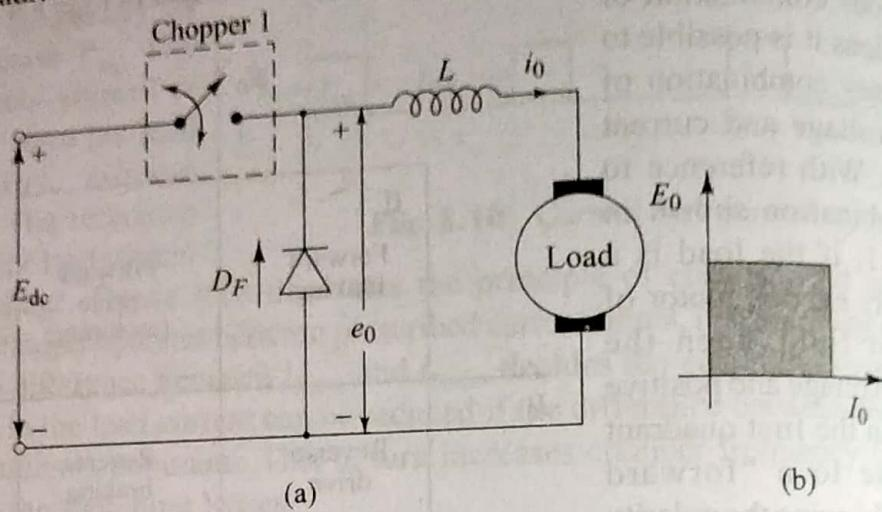
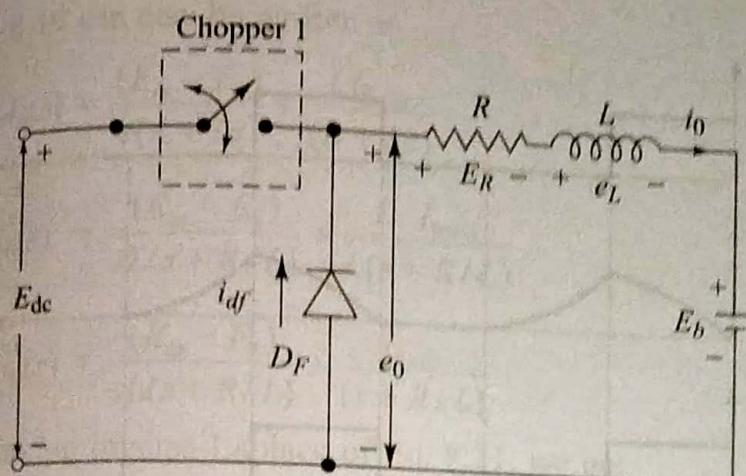

Fig. 8.12 Type A chopper circuit and $E_0 - I_0$ characteristic
Fig. 8.13 First quadrant chopper with $R - L$ load
Figure 8.12 illustrates the basic power circuit of first quadrant chopper. The term 'first quadrant' signifies that circuit parameters E_0 and I_0 occur only in the first quadrant of $E_0 - I_0$ diagram.
Commutating circuitry is not shown in Fig. 8.12 for simplicity. When the chopper CH_1 is ON, $e_0 = E_{dc}$ and current flows in the direction shown in Fig. 8.12. When the chopper CH_1 is OFF, $e_0 = 0$ but the current i_0 flows in the load in the same direction through freewheeling diode D_f . Therefore, both average load voltage E_0 and current I_0 are positive and thus power flows from source to load. This operation is shown by the hatched area in Fig. 8.12(b). Therefore, this configuration is used for motoring operation of d.c. motor load. Class A chopper circuit is also called as step-down chopper as average output voltage E_0 is always less than the d.c. input voltage E_{dc} . Due to the motoring operation, this chopper is also called as motoring chopper.
1. Steady-state Time-domain Analysis Class A chopper circuit of Fig. 8.12 can also be drawn in terms of three separate circuit elements, as shown in Fig. 8.13. Here, load is $R-L$ E_b type load. E_b is the load voltage which may be a d.c. motor or a battery.